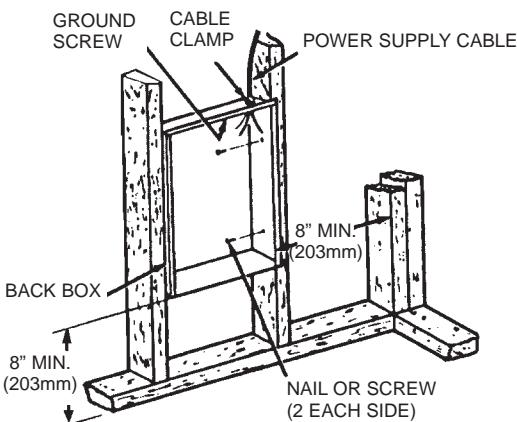

Fig. 1: Locating Recessed Back Box in New Construction
1. Mounting Back Box (See Figure 1).
c. Secure the back box in position with wood screws or nails as shown in Figure 1.
2. Power Supply Wiring (See Figure 1).